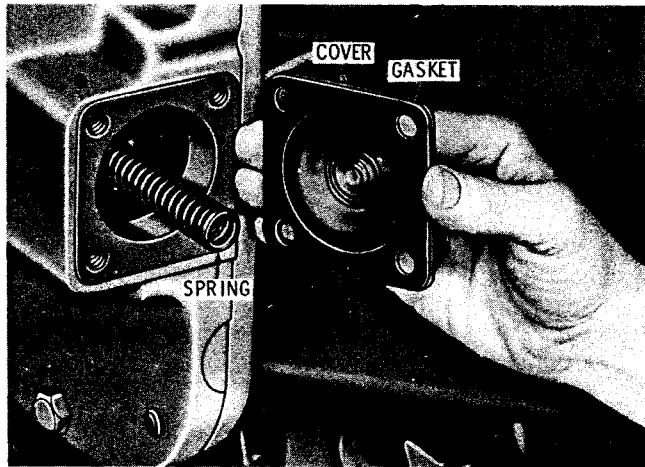

Fig. 7-58. Installing lubrication regulator valve cover
(8) Install the cover gasket and lubrication regulator valve cover (fig. 7-58). Retain the cover with four 3/8-16 x 3/4-inch bolts, with lock washers. Tighten the bolts evenly to 26 to 32 pound feet torque.